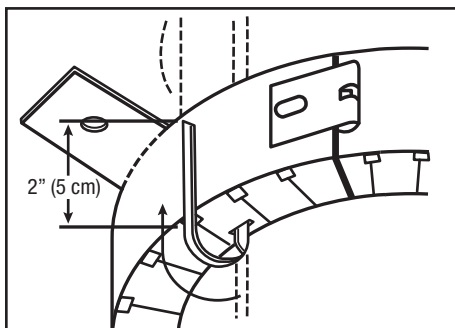

Figure 5: Pull down straps, twist and wrap around.
F. Pull down on Ultra Fast Anchor Straps until spring tab comes in contact with opposite edge of the opening. **Using pliers**, pull anchor strap approximately 1/2 inch (13 mm) and at the same time put a half twist in the strap and then bend the strap over the PPD body (Figure 5).
G. The length of excess strap will vary depending on the thickness of the substrate (ie. gypsum, hollow core or CMU versus solid concrete). The excess strap can be cut off if desired. Remaining strap length must be a minimum 2 inch (50 mm) after bending the strap over the PPD body (Figure 5).